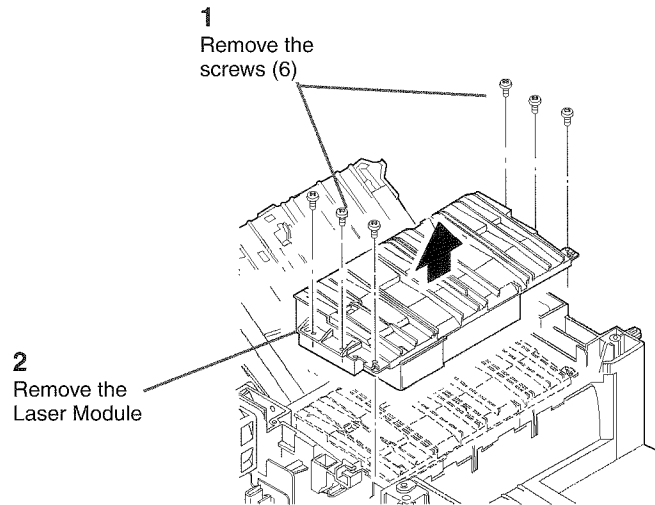

Figure 1 Removing the Laser Module
2. ( Figure 1): Remove the Laser Module.